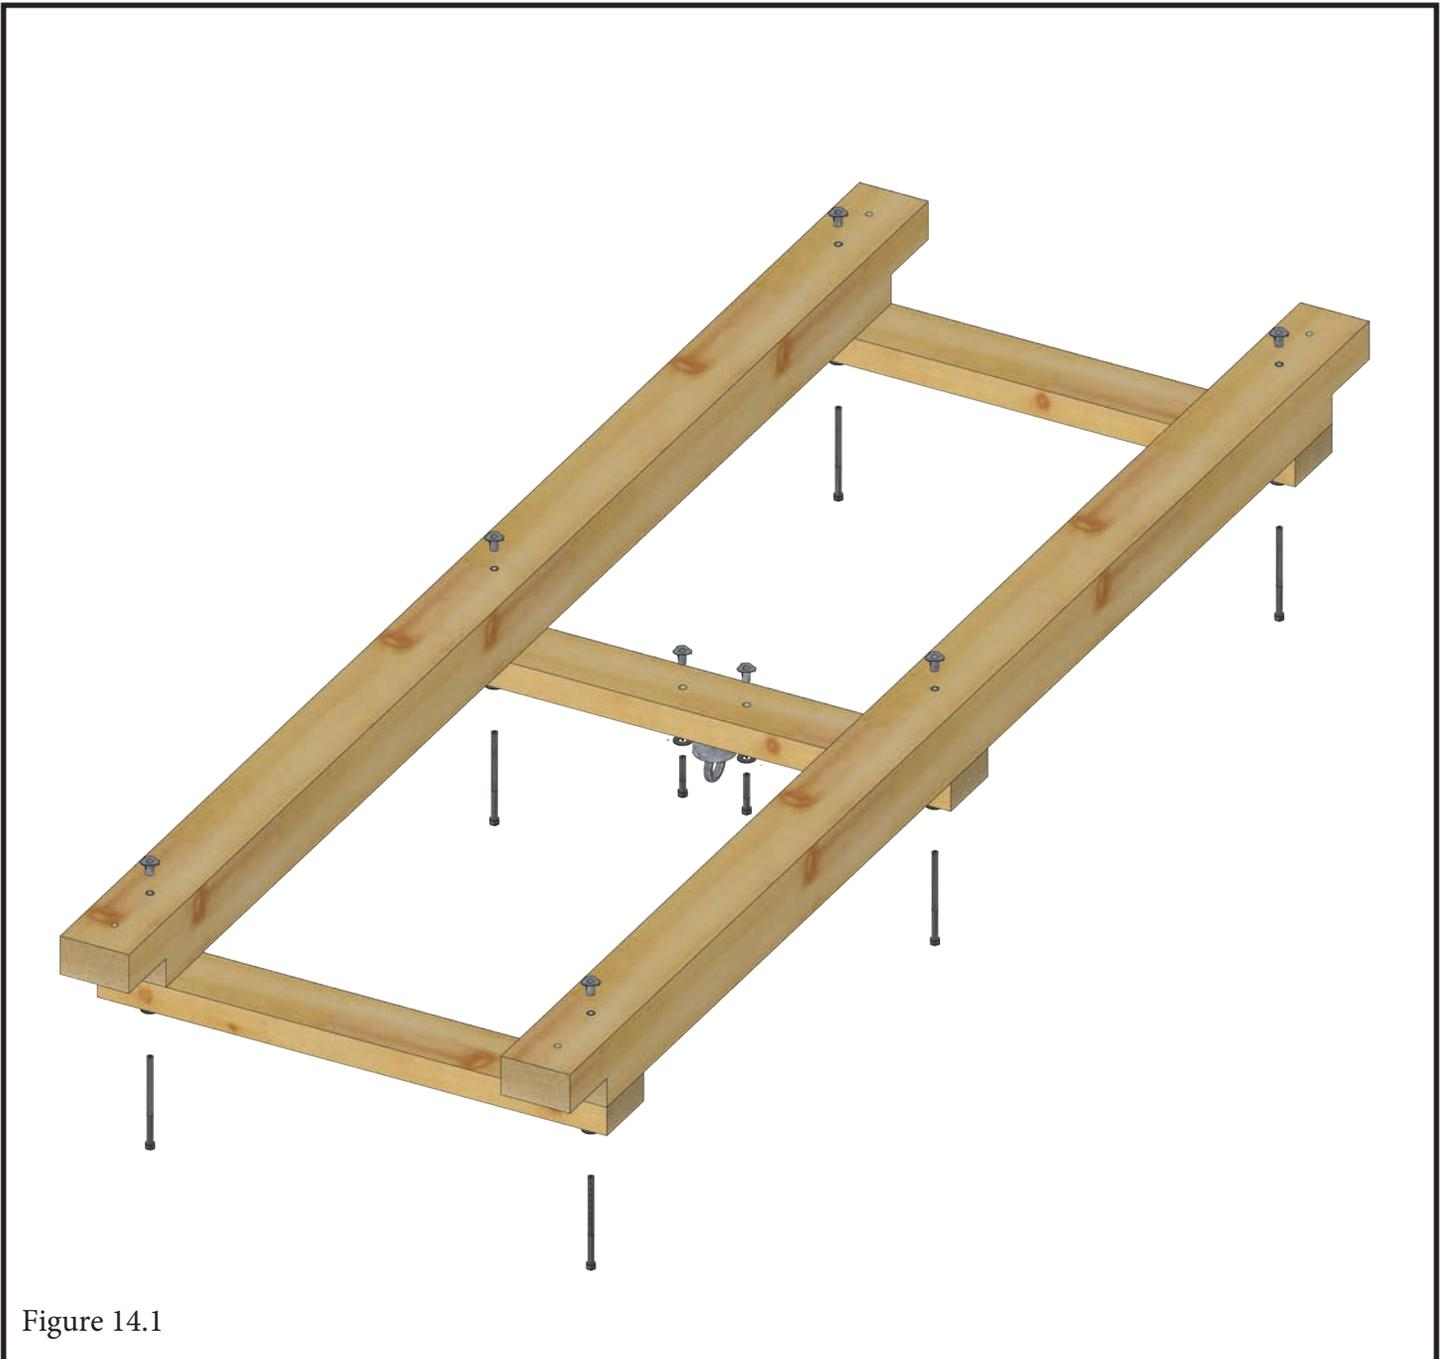

Figure 14.1
14.1 Fasten GW Deck Supports (2) to Bridge Supports with 5/16 x 4-1/2 Hex Bolts and 5/16 washer into T-Nut as shown in Figure 14.1.
14.2 Fasten GW Tire Support to Bridge Supports with 5/16 x 4-1/2 Hex Bolts and 5/16 washer into T-Nut as shown in Figure 14.1.
14.3 Fasten Tire Swivel to GW Tire Support with 5/16 x 1-3/4 Hex Bolts and 5/16 washer into T-Nut as shown in Figure 14.1. Snap spring clip.